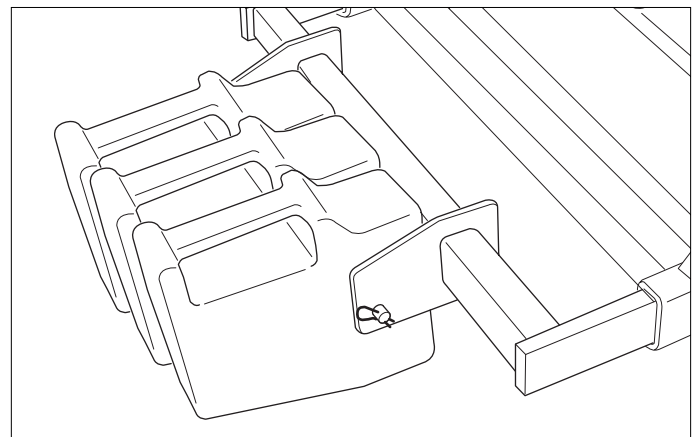

Figure 36. Weight & Retainer Rod Installation
6. Install the counter weights supplied with the grass collector on the weight mount rack (see Figure 36).
7. Install the weight retainer rod through the weight mount rack and secure with the hairpin clips (see Figure 36).